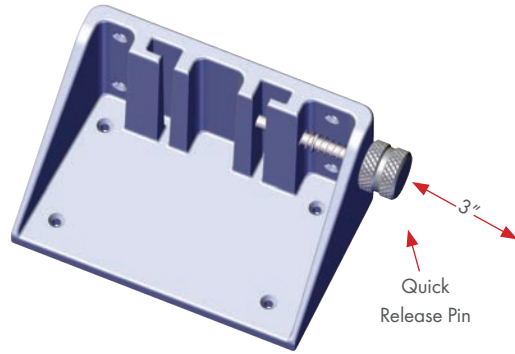

Figure 4
IMPORTANT: The HPU must be mounted in a compartment that is at least **11" tall and 9" in width** in order to install and remove it from the mounting bracket and operate the Quick Release Pin. **FIG. 4 & 7**
3. Place the mounting bracket in the ideal location. Using a 5/32" drill bit, drill a pilot hole for one of the screws **E**. Install one screw **E** and tighten snug to hold the bracket in place. **FIG. 4**
4. Check to make sure the bracket has not shifted. Drill pilot holes and install the remaining (3) screws **E**.